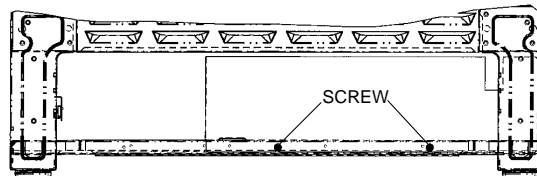

FIGURE 4
- f. Remove access cover to orifice (figure 4).